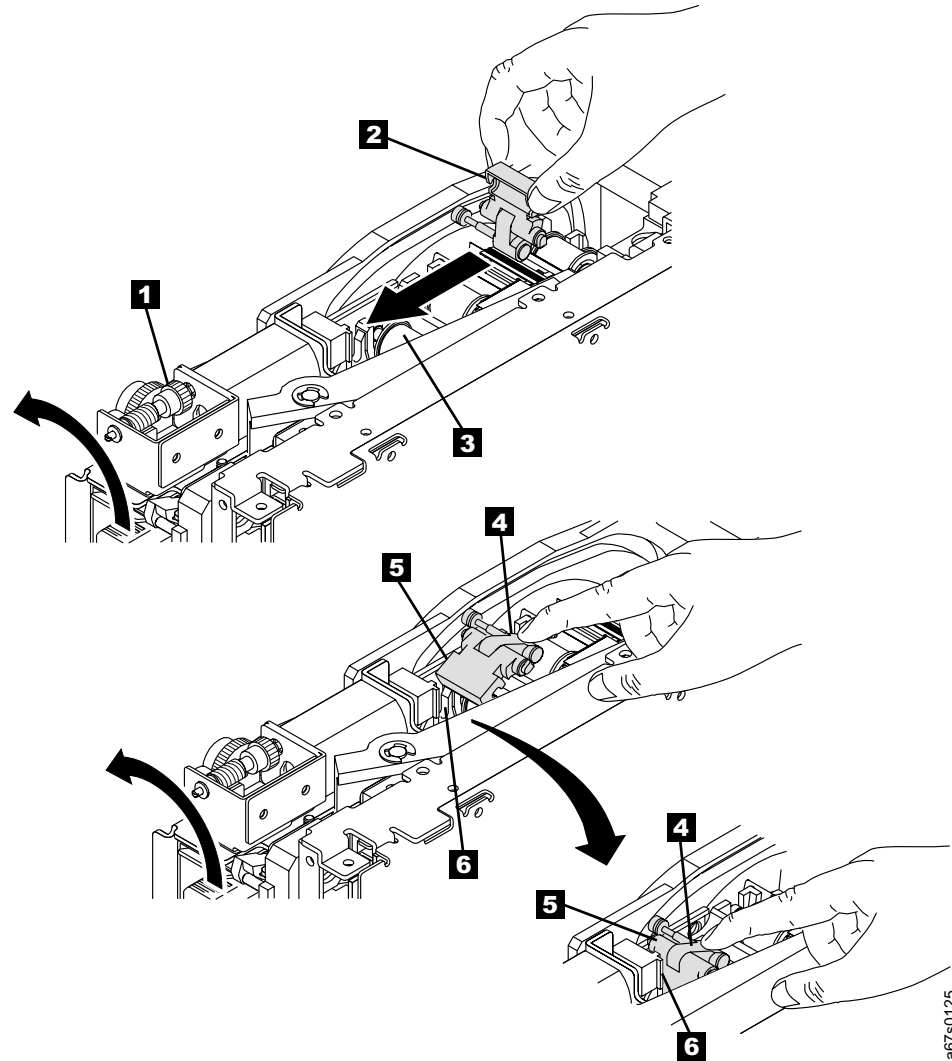

Figure 28. Guiding the leader pin into the tape cartridge
1. Manually rotate the loader motor gear (see **1** in Figure 28) in the unload (counterclockwise) direction until the leader pin block **2** reaches the last roller **3**.